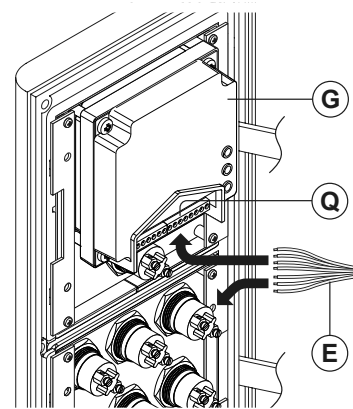
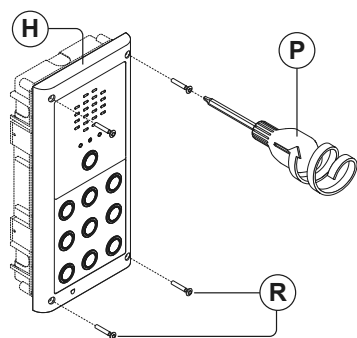

Fig. 71
Fig. 72
8. Take the cable wires (E) and make the required wiring connections into the terminals (Q) on the back of the module (G), as shown in **Fig.71**, using the screwdriver provided (P) (from **Fig.72** and using the flat blade end);
10. After the system has been tested and is working correctly, move back the module support frame (H) carefully and then fix it to the flush box (C) using the screwdriver provided (P) (using the torx end) and the torx pin security screws provided (R), as shown in **Fig.72**. **Note: do not over tighten the screws more than is necessary.**